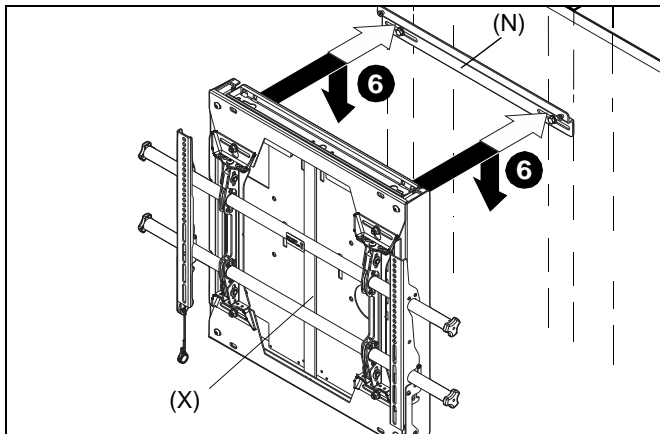

Figure 2
6. Hang wall mount (X) onto top bracket (N) by placing the teardrop mounting holes on mount over thumb nuts on bracket. (See Figure 2)